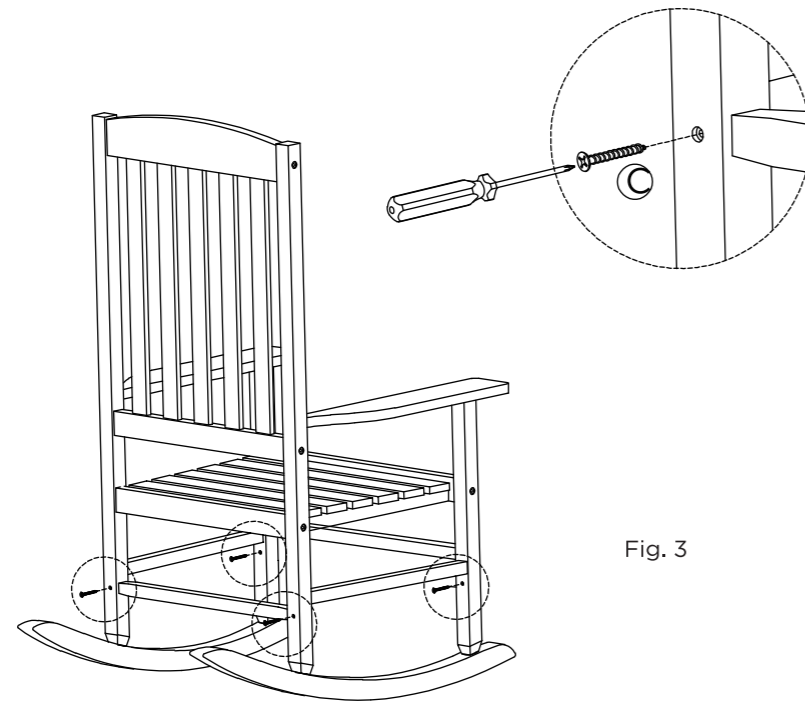

Fig. 3
4. Secure the spindle (6), (7) with the leg (1), (2) by screws (C). Tighten using screwdriver (not included). See Fig. 3